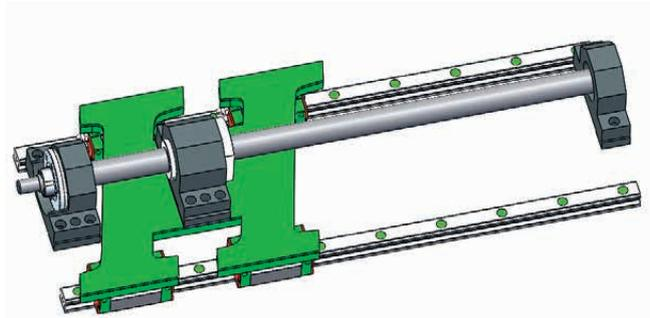

Fig. 4.9 Ballscrew at the left stop for aligning the fixed bearing
- ▶ Move the application as close as possible to the fixed bearing (see Fig. 4.9).